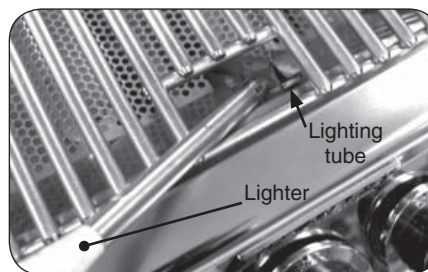

Fig. 13-2 - Manual lighting
2. Insert either a burning long-barrel butane lighter or a burning long-stem match through the cooking grid opening to the top of the lighting tube. (Fig. 13-2). For backburners, hold the flame against the perforated material of the backburner. For sideburners, hold the flame against the burner.
4. If the burner does not light, **immediately depress the knob and turn the valve to OFF. WAIT FIVE (5) MINUTES** before repeating steps 2 through 4 of the MANUAL LIGHTING instructions.